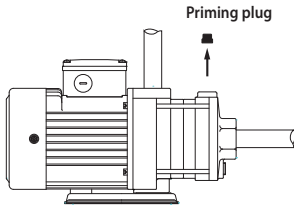

Fig.4
3.1.1.2 Remove the priming plug, fig. 4.